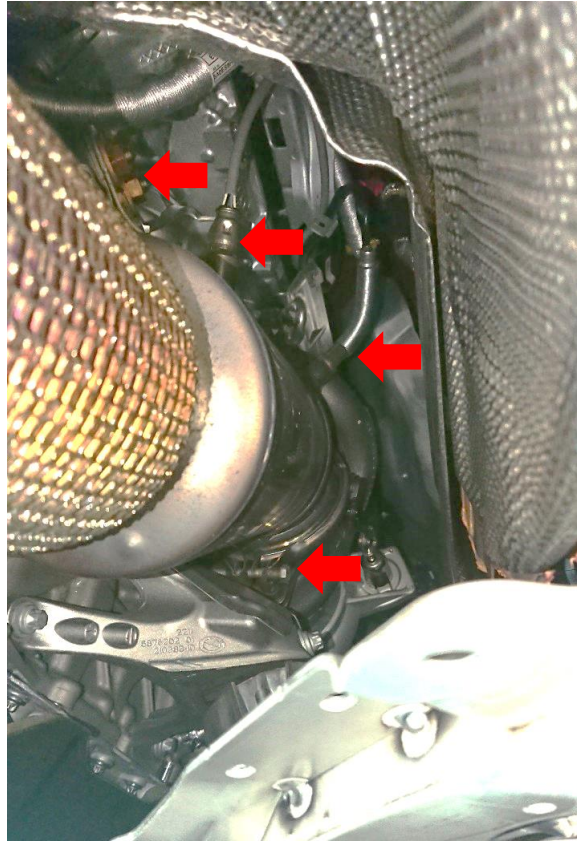

Fig. 3
3. Remove the retainer clamps, bushes screw, the front and rear oxygen sensor, then remove the original cat pipe. (Fig3)